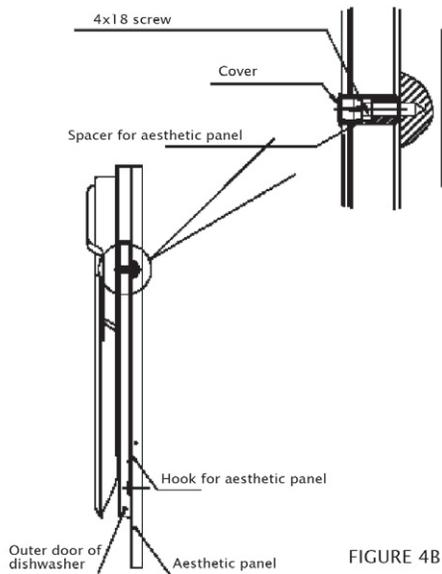

**Figure 4A**
2. Install the hook on the aesthetic wood-en panel and put the hook into the slot of the outer door of dishwasher(see figure 4a). After positioning of the panel , fix the panel onto the outer door by screws and bolts(See figure 4b).